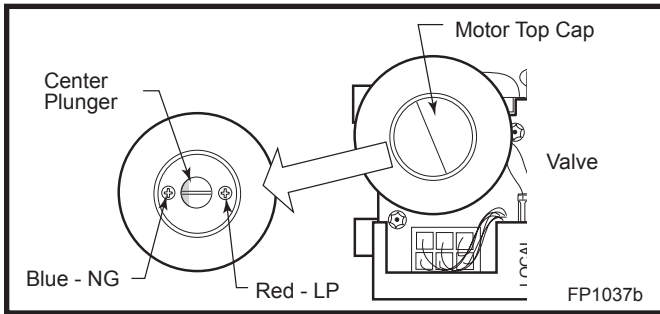

Fig. 68 Depress and turn center plunger.
- Remove motor top cap using a standard slotted screwdriver. Depress and turn center plunger until arrow points to correct screw. Red for LP and Blue for NG. **NOTE:** Plunger will “snap” into NG position when arrow is close to blue screw. It will not “snap” at LP (Red) position. (Fig. 68)